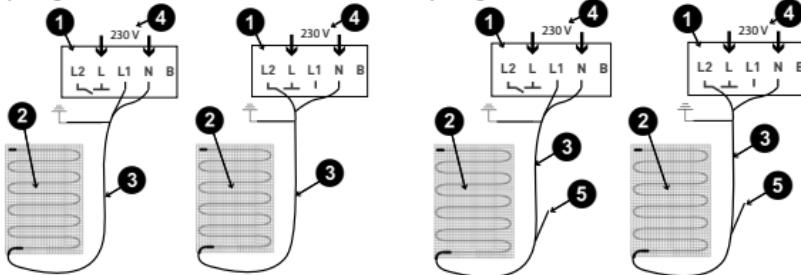

Fig. 4: Towel rail
- [1] Make the connection according to the instructions on the back of the thermostat (see Fig. 4 & 5). The protective conductor for the power supply and for the heating cable is connected to a terminal in the box.